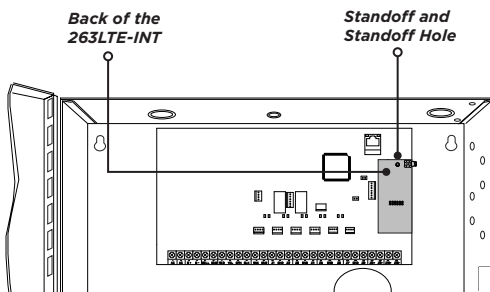

Figure 3: 263LTE-INT on an XR150INT/XR550INT Panel
3. Secure the 263LTE-INT on the 12-pin cell module connector. See Figure 3.